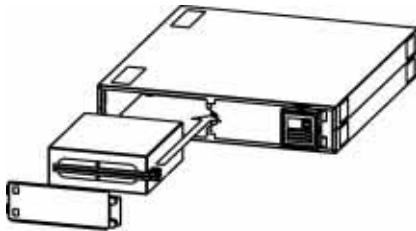

Fig. 7: Replacing the Battery
5. Slide new battery into the UPS and reconnect the battery connector (fig.7). The battery connector is polarized and will only fit one way. Make sure it is completely installed.